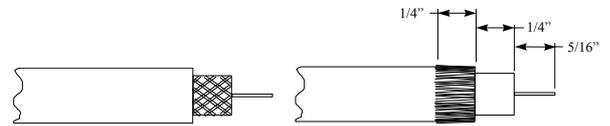

Figure 1
3. Prepare cable end to 5/16" center conductor, 1/4" dielectric, and 1/4" braid, per instructions of commercially available drop cable preparation tool (Fig. 1).
5. For single braid cables, uniformly fold back braid against the cable jacket (Fig. 1).